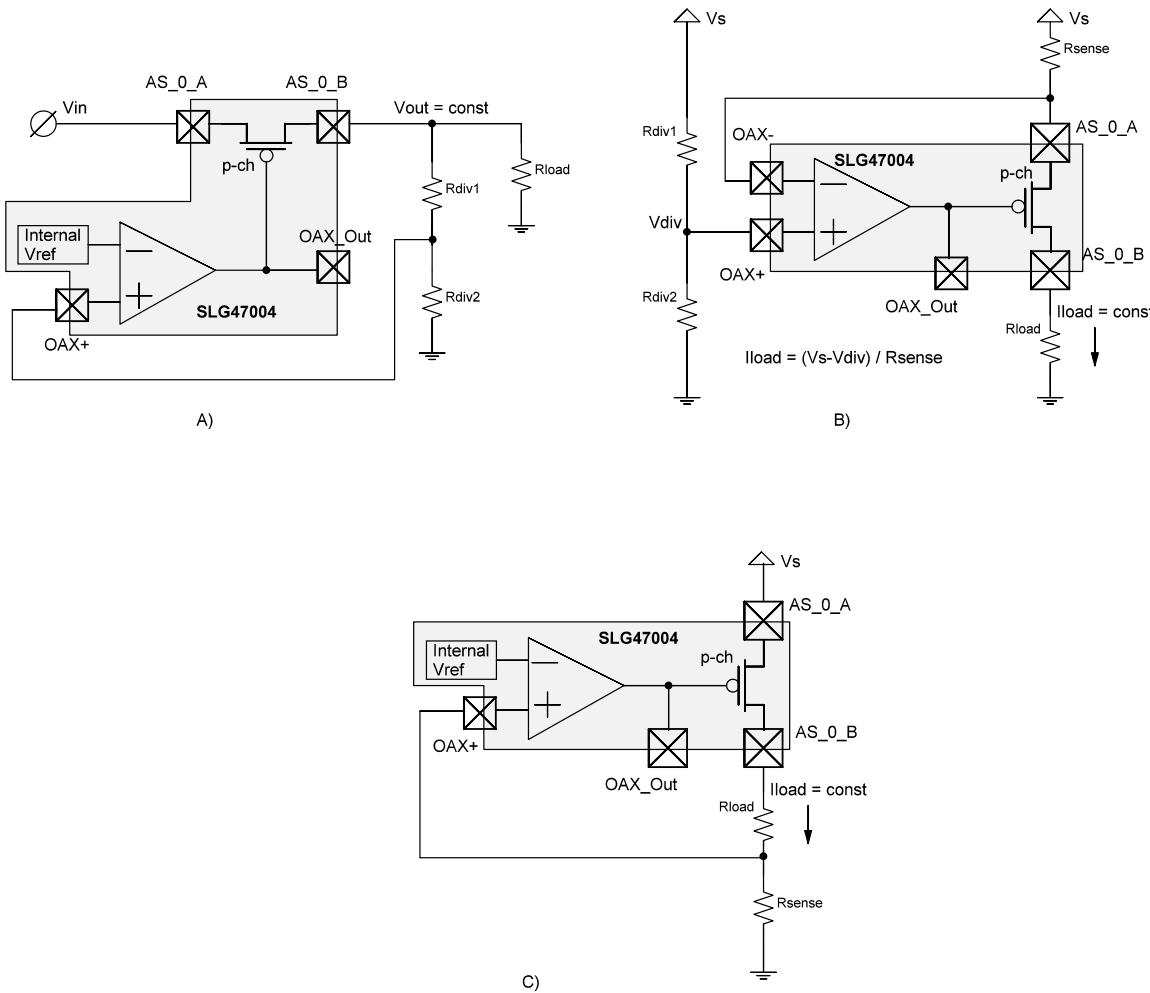

Figure 66: Typical Implementation of Voltage Regulator (A) and Current Sources (B, C)
In this mode, the op amp output drives P-FET (part of Analog Switch). Note that FETs of Analog Switches have different resistances. Analog Switch 0 has $R_{ds_PMOS} \ll R_{ds_NMOS}$, while Analog Switch 1 has $R_{ds_NMOS} \ll R_{ds_PMOS}$. That's why it is recommended to implement voltage regulator mode using Analog Switch 0. In this mode the op amp output is High when the macrocell is turned off. Figure 66 (A) shows the typical implementation of the voltage source function. Optionally, the
user can use this mode to implement a constant current source with load connected to ground (Figure 66, B, C). Note that op amp must operate in operational amplifier mode (register 750 = 0 for Op Amp0, register 751 = 0 for Op Amp1).